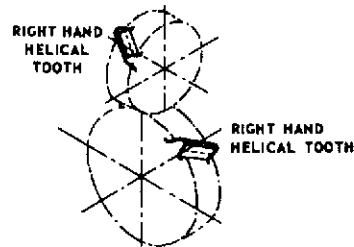

FIGURE 1.4 — CROSSED HELICAL GEARS
- 1.09** **Crossed Helical Gears** operate on crossed axes and may have teeth of the same or opposite hand. The term Crossed Helical Gears has superseded the old term "Spiral Gears." (Figure 1.4)